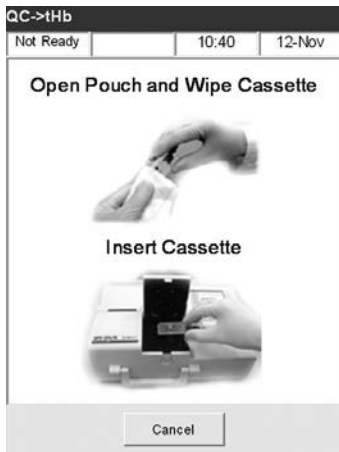

Fig. 6-8 Wipe and Insert Cassette
9. Gently wipe both sides of the tHb-Calibrator Cassette with a clean dry cloth and examine it to ensure it is clean. Insert it into the chamber and press down to properly seat the cassette (Fig. 6-8).